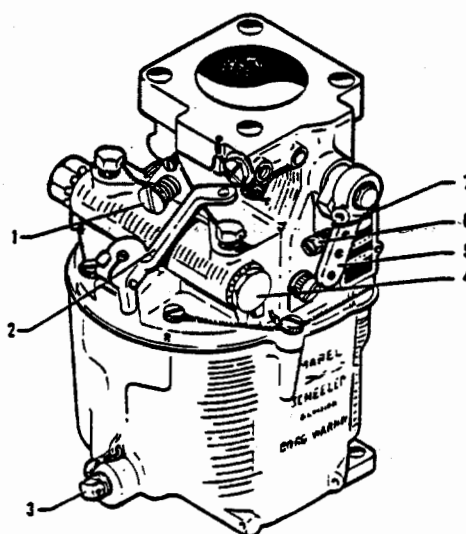

Figure 8-6. Carburetor
- d. Clean the fuel inlet screen. (Refer to Figure 8-6.)
3-17. ADJUSTMENT OF IDLE MIXTURE. (Refer to Figure 8-6.)